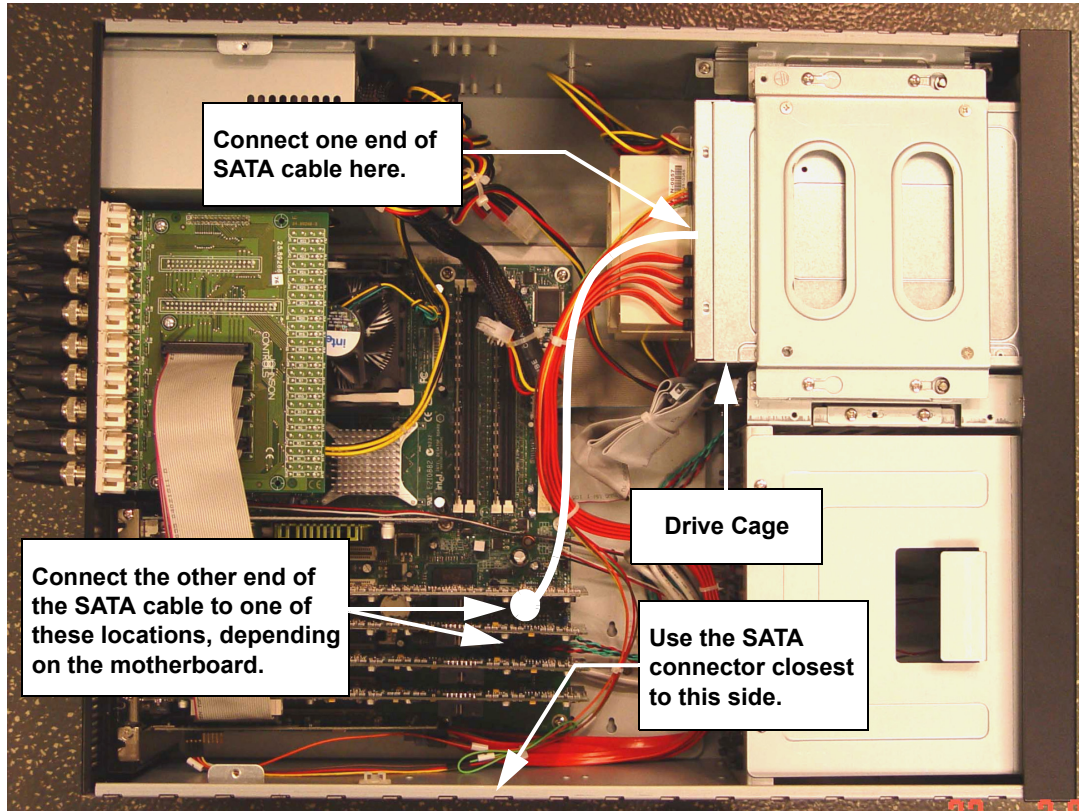

Figure 7: SATA Cable Connections (5-bay Drive Chassis)
10. Connect one end of the SATA cable on the drive cage and the other end to the motherboard according to Figure 7. Power is automatically connected from the chassis.
There are 2 or 4 SATA connectors on the motherboard. When connecting the SATA cable to the motherboard, connect the cable to the connector furthest from the CPU (see Figure 7).